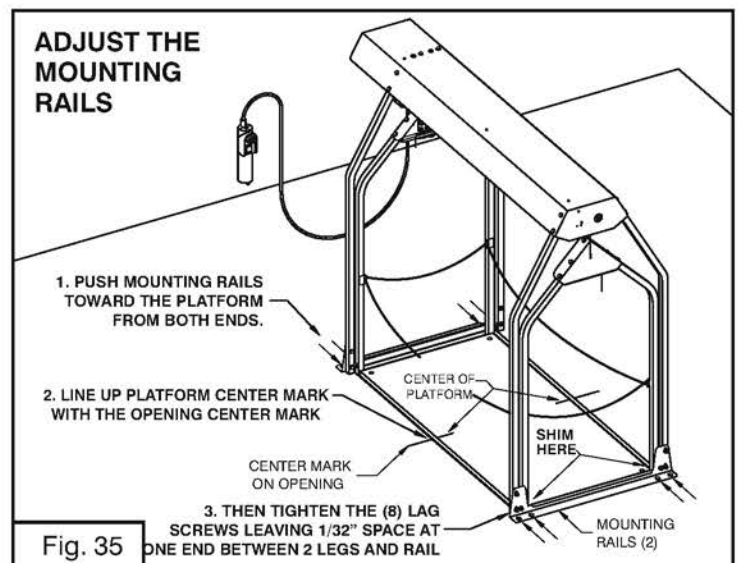

Fig. 35
To finish your installation, the mounting rails must be adjusted to center the lifting platform in the opening. Mark the center of the platform by measuring 22" from either end and make a small mark (see Fig. 35).
11.3 Firmly tighten the (4) lag screws on the **first** mounting rail (but don't strip the threads in the floor). Then, place a 1/32" shim spacer between the second mounting rail and the platform legs and tighten the (4) lag screws as above (see Fig. 35). **Note: a business card folded double makes a good shim spacer.**